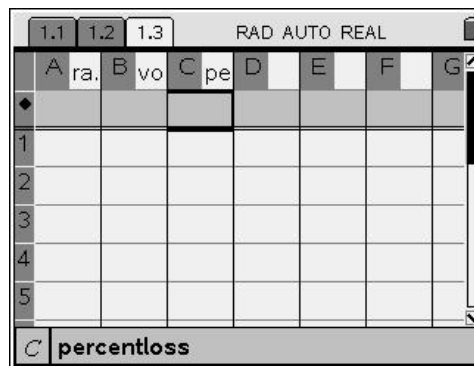

Figure 26
26. Add a spreadsheet page by pressing 2ND F7 , select 3:Lists & Spreadsheets and press ENTER . Arrow to the top of the first column and type, “radius”. Press ENTER . Arrow to the top of the second column and type, “volume”. At the top of the third column type, “percentloss”. (Figure 26)